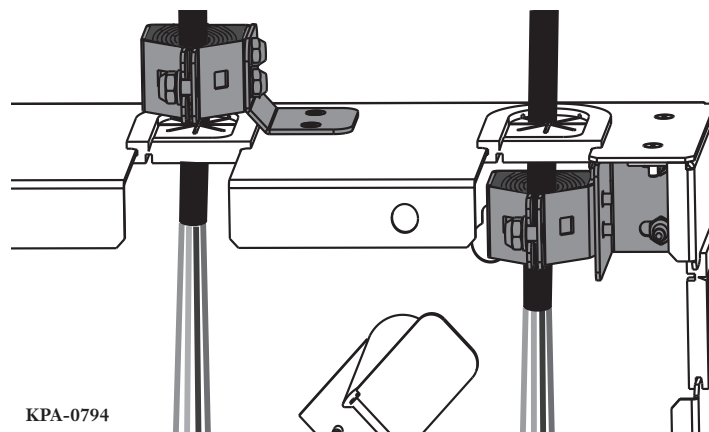

Figure 8 — UCC Strain-relief
- Step 2:** The UCC must be installed inside the housing unless the cable enters the housing in the center entry locations. Use the provided strain-relief bracket to secure the UCC to the housing (Figure 8).